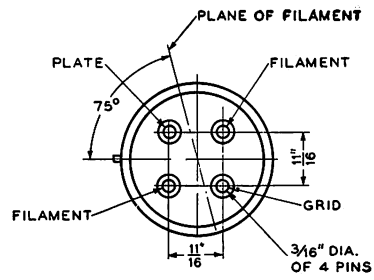

FIG. 2
**Mounting—**Large four-pin bayonet type base for use in a W.E. 112A or similar socket for either vertical or horizontal mounting. If mounted horizontally the plane of the filament, which is indicated in Figure 2, should be vertical.